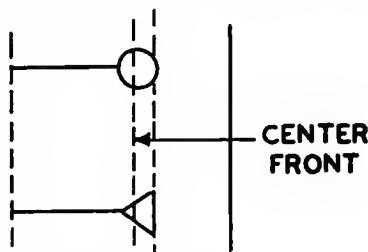

Fig. 236. Cutting the buttonhole.
- B. Cut the length of the buttonhole on the filling (crosswise) thread not quite to eyelet end (Fig. 236).